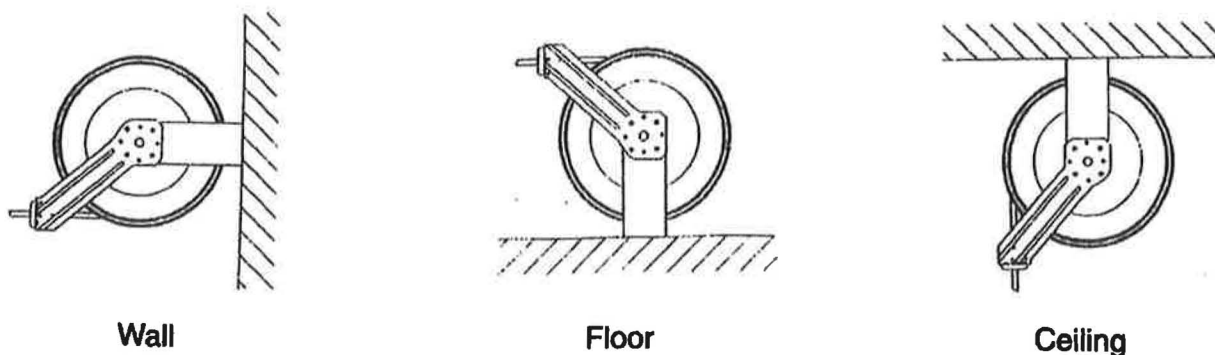

Figure 2.
2. The reel is supplied with a hose guide roller bracket. The bracket position may be changed depending on the reel mounting position. Figure 2 shows "Typical Mounting Positions". If bracket position needs to be changed, do the following: